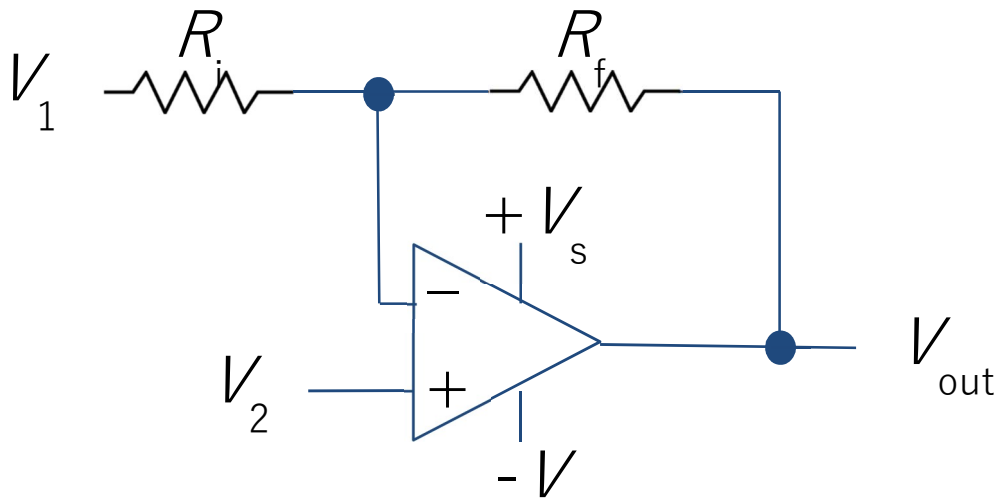

Fig. 1 Opamp gain and offset circuit
- In the following questions, you want to calibrate a linear sensor using the circuit in Fig. 1 so that its output range is 0 to 5V. Identify which of V1 and V2 will be the input voltage and which the reference voltage, the value of the reference voltage, and the value of Rf/Ri in each case. If the calibration can't be done with this circuit, explain why.